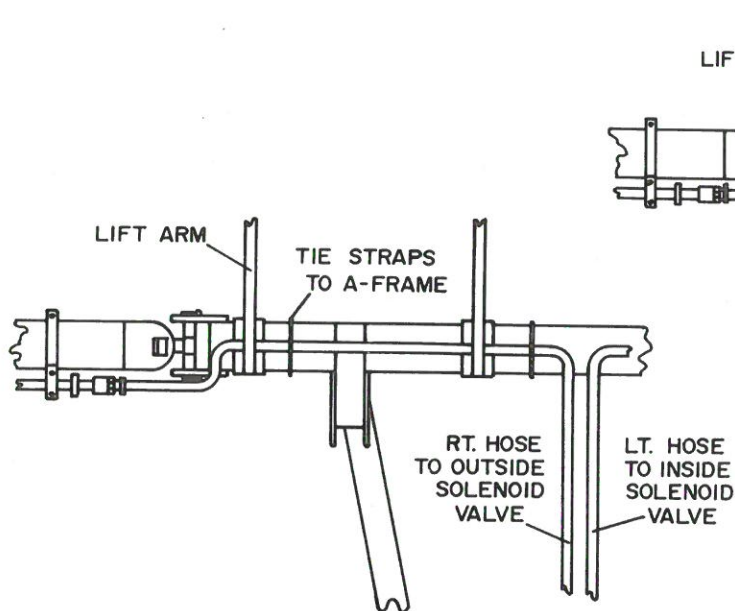
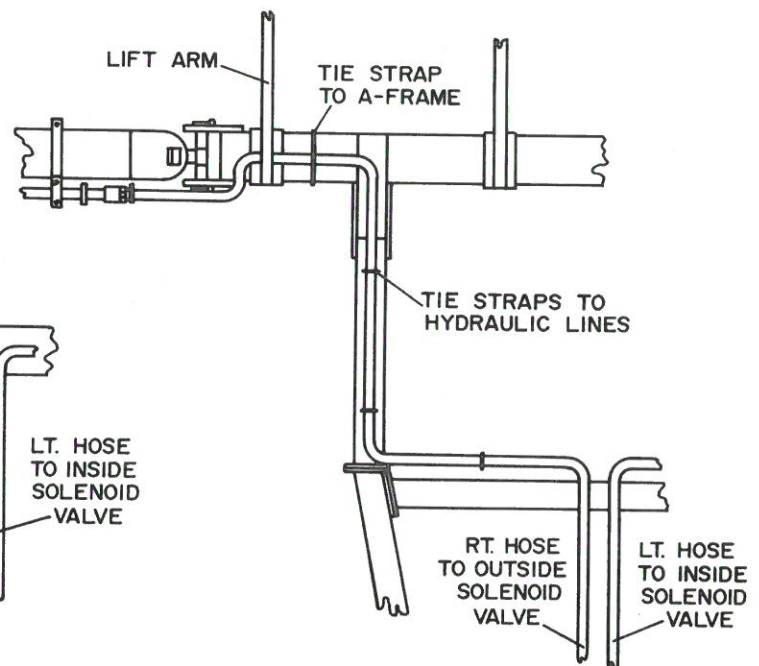

Fig. 14
Fig. 15
STEP 12: CONNECT RIGHT HAND BOOM HOSE FROM OUTSIDE SOLENOID VALVE TO RIGHT HAND BOOM. ALSO CONNECT LEFT HAND BOOM HOSE FROM INSIDE SOLENOID VALVE TO LEFT HAND BOOM. SECURE HOSE TO RIGHT AND LEFT HAND BOOMS WITH HOSE CLAMPS. SECURE 1" HOSE IN PLACE ALONG A-FRAME BY USING THE STRAPS. **NOTE:** FOR 15 FT. A-FRAME FOLLOW FIG. 14 FOR HOSE AND TIE STRAPS PLACEMENT. FOR A 20 FT. A-FRAME WITH EITHER A 500 GALLON OR 833 GALLON TANK FOLLOW FIG. 15 FOR HOSE AND TIE STRAP PLACEMENT.